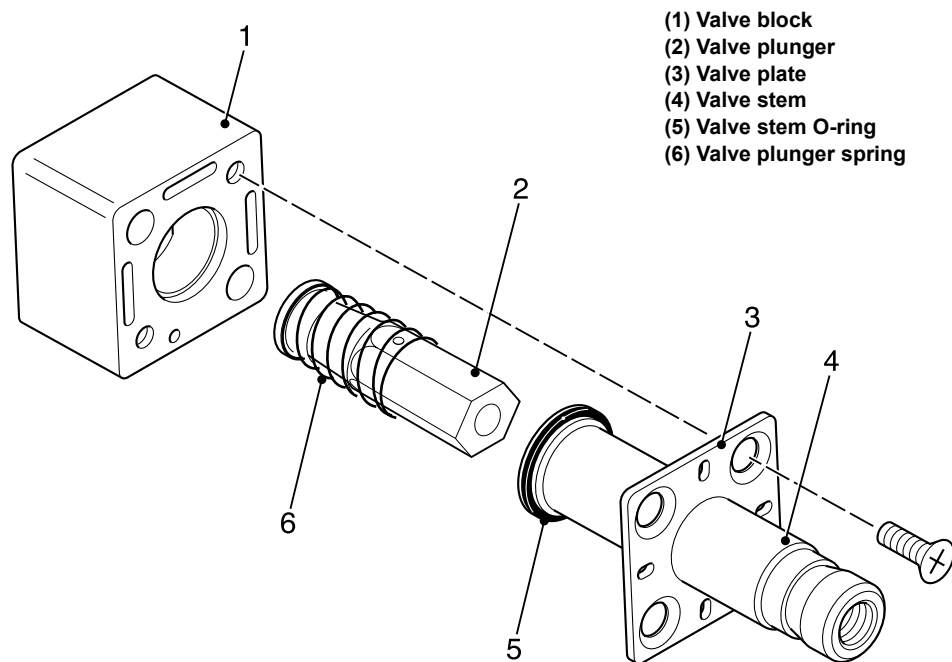

Figure 11-2. Valve Internal Components
- 4 Disassemble the internal valve components (Figure 11-2) noting the orientation of each.